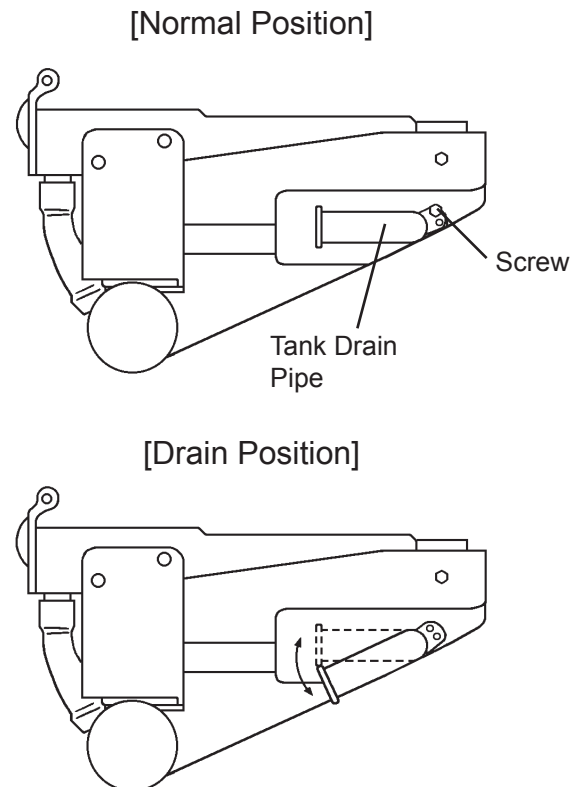

Fig. 2
- 4) Move the tank drain pipe to the drain position. See Fig. 2.